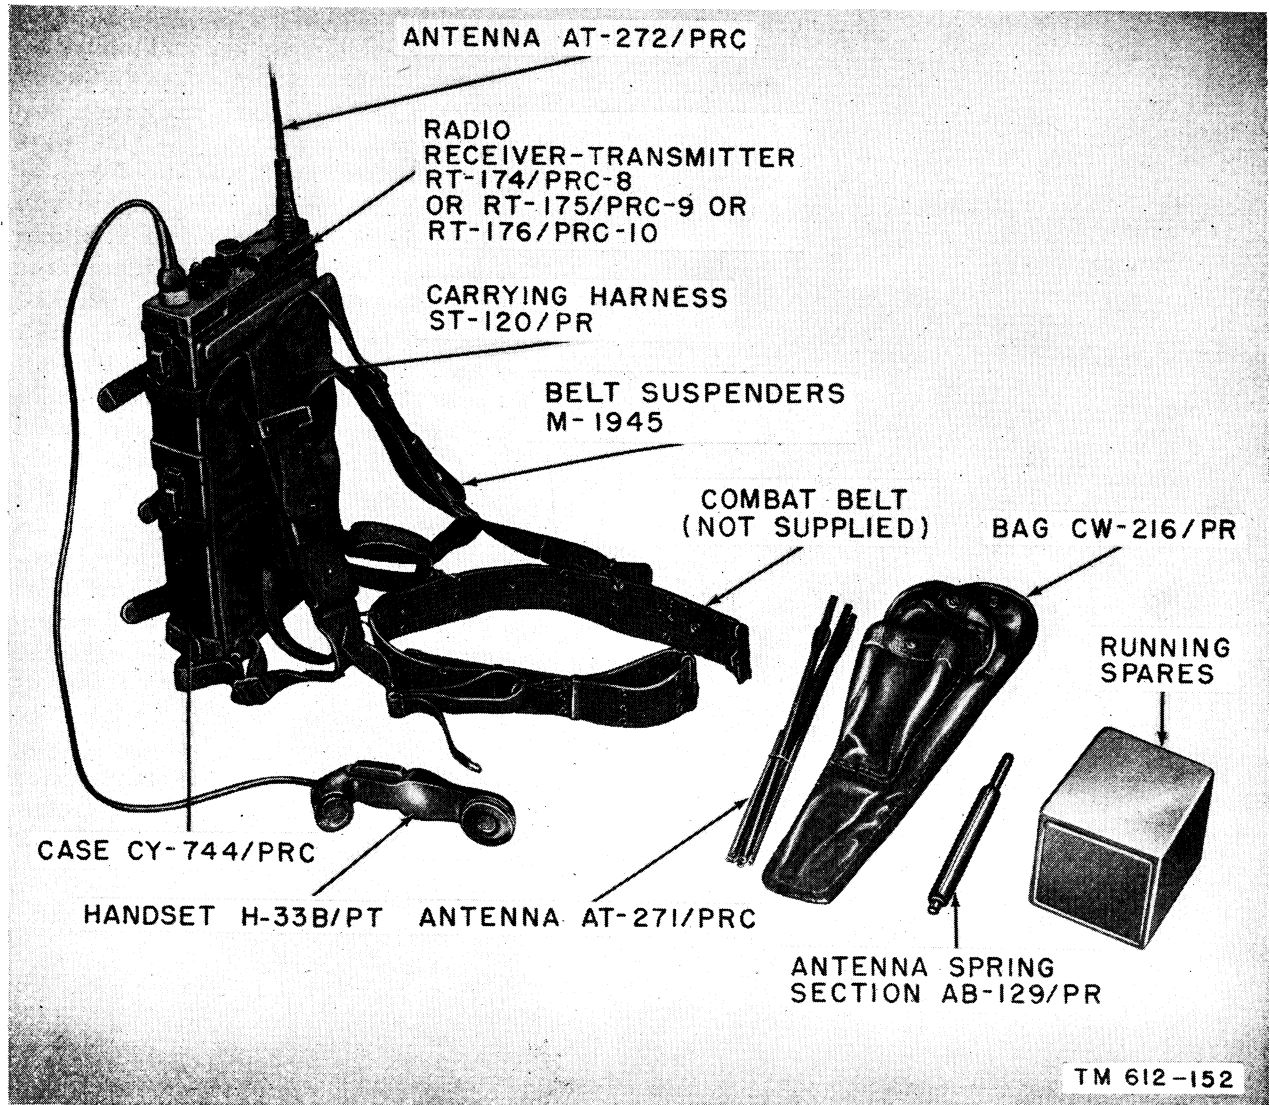

Figure 3. Radio Set AN/PRC-8, -9, or -10, operating components.
(figs. 3 and 10)
g. SUSPENDER, BELT M-1945. The suspenders (fig. 3) support the operator's combat belt and the equipment in a harness. The suspenders are padded at the shoulders and are adjustable to fit
h. CARRYING HARNESS ST-120/PR. The harness (fig. 3) is fastened to the equipment by three adjustable straps. The bottom strap has two rings sewn into it for securing the bottom of the harness to the operator's combat belt. Two straps at the top support the entire pack and adjust its position when fastened in the two loop sides of the suspenders.